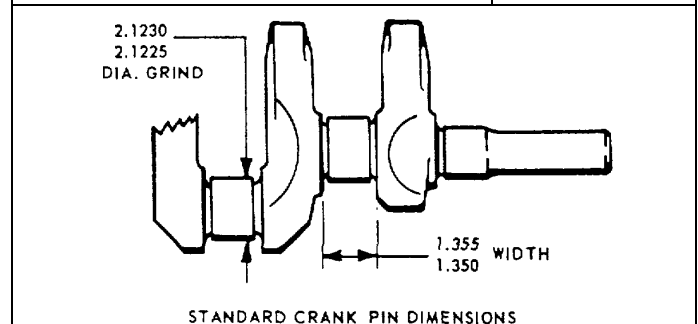

Figure 4-19. Clearances
(2) Valves. The valve face is ground at 45 degrees to the vertical centerline of the valve stem and the valve seat insert should also be ground at a 45 degree angle. After grinding, lap valves and inserts with lapping compound to prevent improper seating. Clean valve seats and apply lapping compound to valve face and put valves back into guides. Lap valves by rotating them back and forth with a reciprocating advancing valve tool. Occasionally lift valves and reseat them in a different position to insure a uniform seat entirely around the valve. After lapping, remove valves and wash them and cylinder block thoroughly with gasoline or kerosene.
(3) Pistons and Connecting Rods. When replacing shell bearings, replace a complete bearing (2 halves). The piston skirt is cam-ground to an elliptical contour. Clearance between piston and cylinder must be measured at the center of the thrust face of the piston skirt. Refer to figure 4-19 for proper clearance. The thrust faces on piston skirt are 90 degrees from axis of piston pin hole.
(4) Inspect clearances of parts as indicated in figure 4-19.